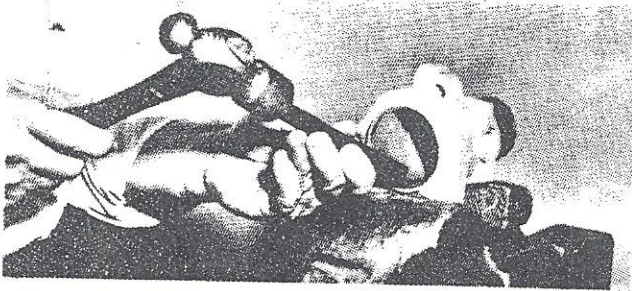

FIGURE 1
- A. Cut old liner out with a chisel. See Fig. 1.